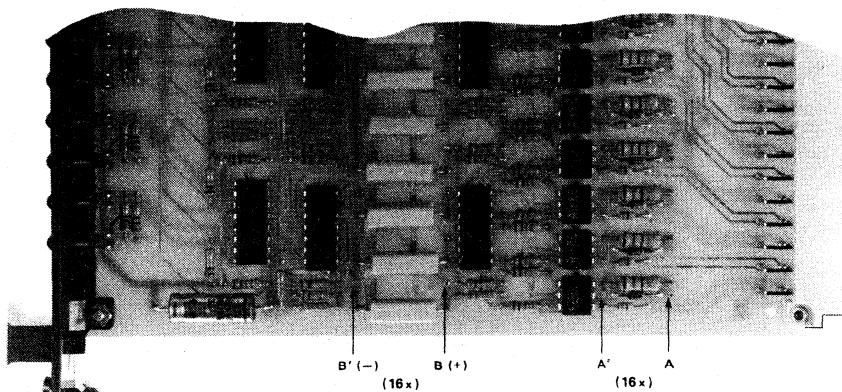

Fig. 3 Part of the printed-wiring board, showing the connecting points for the additional delay capacitors and the resistors for 5 V-level operation.
The delay time of the delay circuit can be increased by inserting capacitors (approx. 0,015 μ F/ms) between connecting points B and B' (Fig. 3).
2. For 5 V-level operation a resistor of $360 \Omega \pm 5\%$, style CR25, has to be connected to each input stage between connecting points A and A' (Fig. 3).